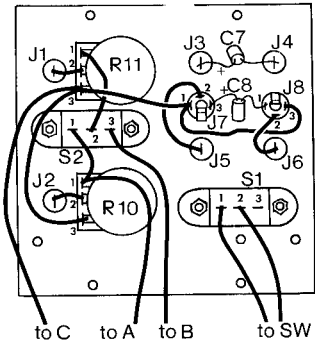
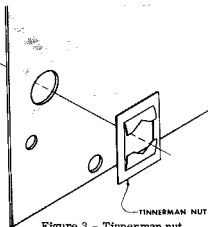

Figure 2 - Front panel parts installation & wiring diagram
Figure 3 - Tinnerman nut mounting detail
- () Place a red pin jack J1 in the hole provided as shown in figure 2. Fasten in place with a tinnerman nut as shown in detail drawing figure 3. Press the tinnerman nut down firmly.
- () Mount the closed circuit mini-phone jack, J7, on the front panel in the position shown in figure 2. Orient the jack as illustrated and fasten in place with the nut provided.
- () Mount one of the 5K potentiometers, R10, in the position shown in figure 2. Use two of the 3/8 inch nuts provided, one behone the panel as a spacer and
the second one in front of the panel hold the control in place. Adjust the rear nut so that none of the threaded shaft is exposed when the front nut is tightened down. This will allow the control knob, which will be mounted in a later step to be seated as close to the front panel as possible. Orient the control as shown in figure 2.
- () In a similar manner, mount the remaining 5K potentiometer, R11, as shown in figure 2.
- () Using two #4-40 X 1/4 inch machine screws, two #4-40 nuts, and two #4 lockwashers, mount slide switch S1 as shown in figure 2.
- () a 2 inch (5 cm) length from lug 1 of R11 to lug 2 of S2. Solder both connections. See figure 2.